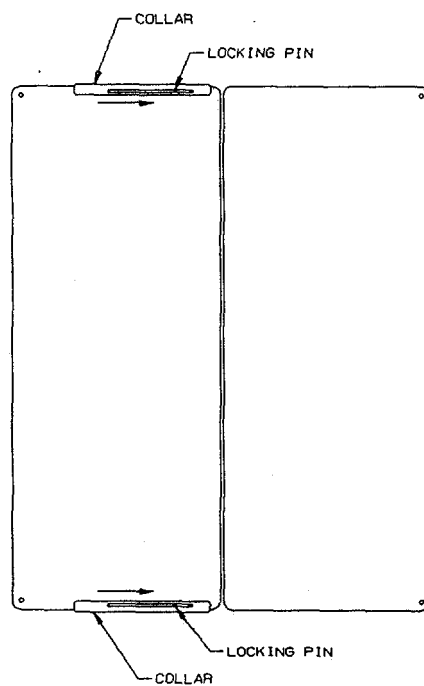

Figure 1-6. Map Board
d. The map board, which is to be used for placement of maps/related documents, is illustrated in Figure 1-6.